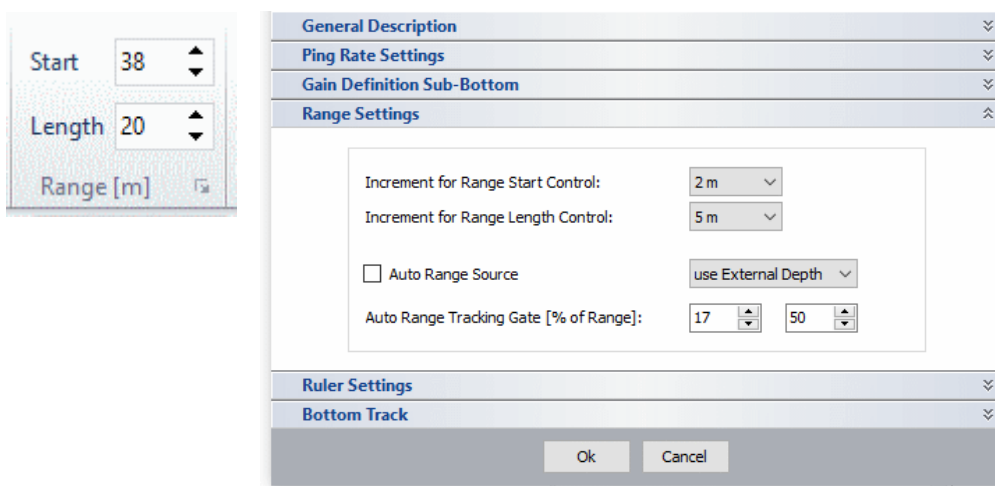

Figure 9: Setup menu, Range settings
- **Range Settings:** Here you can choose whether to use the external depth information for the automatic detection and tracking of the bottom by clicking on the Auto Range Source (Figure 9). If you do not want to use automatic tracking (for instance on steep slopes) depth window can be adjusted by using the Start and Length panels in the home window menu bar. The example shows a window start at 38m depth and a window length of 20m. Increments for the Range Start Control and Range Length Control can be adjusted in the range settings.